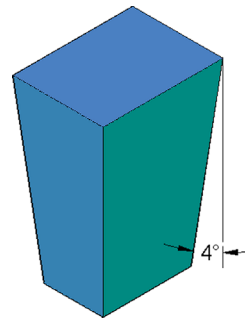

FIGURE 24.19 Wastebasket, Step 2.
Step 2. Taper the block on all four sides to 4°, as seen in Fig. 24.19.